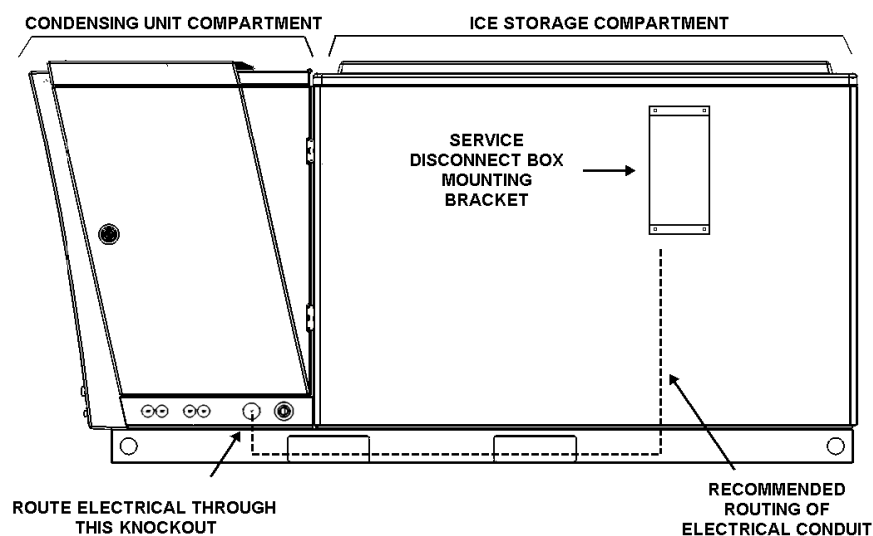
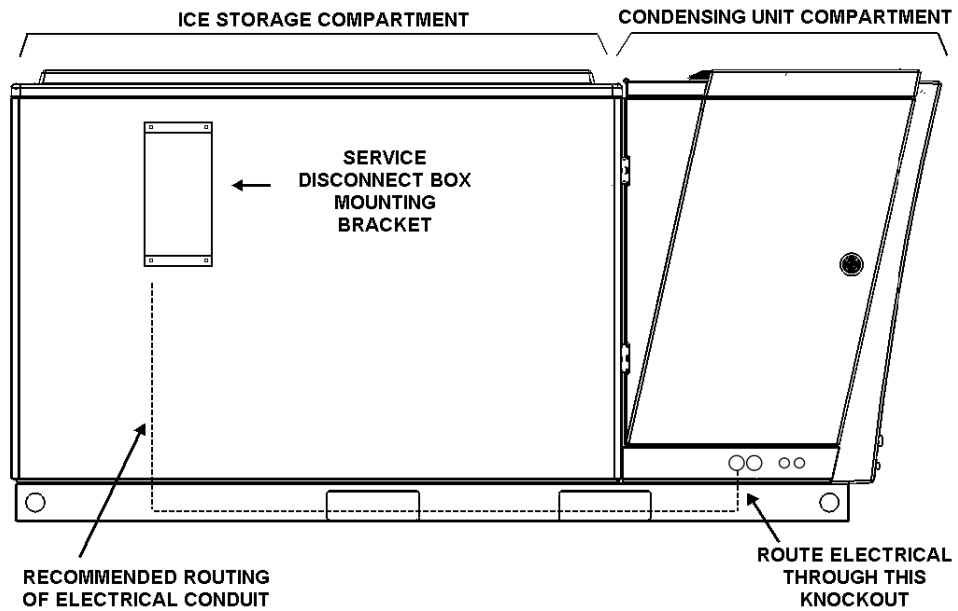

Figure 27 – Mounting Service Disconnect Box (Right Side)
Figure 28 – Mounting Service Disconnect Box (Left Side)
3. Feed wire and connect as appropriate in accordance with applicable electrical code. Refer to the electrical schematic located inside the unit's ELECTRICAL CONTROL BOX, or see the "resources" page at www.ice-energy.com. See the recommended routing of electrical CONDUIT in Figure 27 and Figure 28.